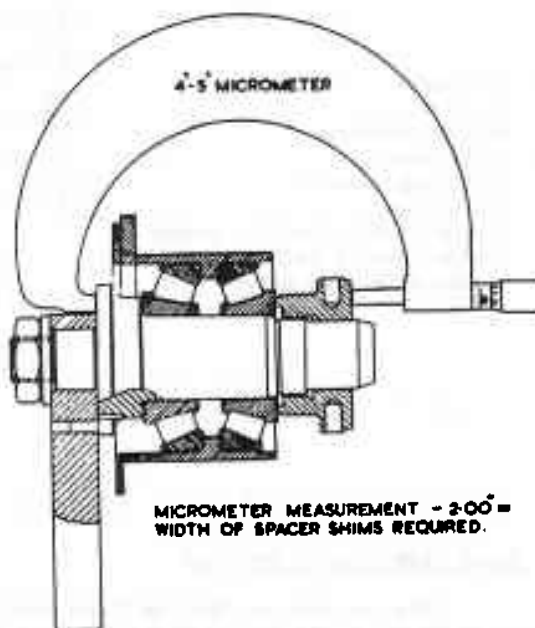

FIG. J10. GAUGING BEARING PRE-LOAD.
4. Tap new outer races into bearing housing. Assemble new bearings and housing, dry, on dummy pinion of Gauging Tackle as shown in Fig. J10.
5. With micrometer, measure overall dimension between outer face of flange of pinion and outer face of knurled nut as shown in Fig. J10. Record dimension.